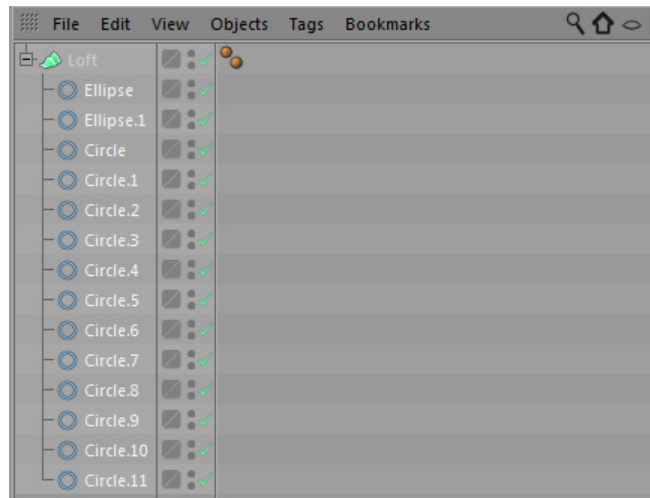
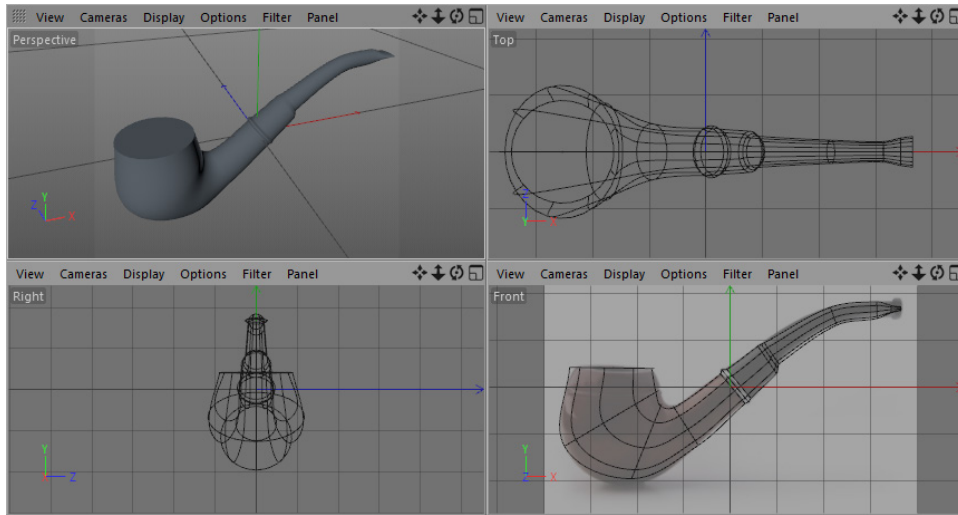

Figure 2-55 The splines connected with Loft
Figure 2-56 The shape of the pipe displayed
3. Press and hold the left mouse button and then drag the splines to *Loft*; all splines are connected to *Loft*, refer to Figure 2-55. Also, shape of the pipe is displayed in the scene, as shown in Figure 2-56.